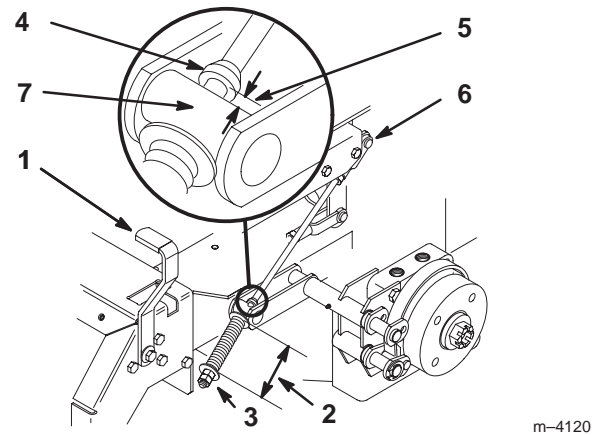

Figure 55
2. Measure the length of the spring. The measurement should be 2-3/4 in. (70 mm) between the washers (Fig. 55).
3. If an adjustment is necessary, loosen the jam nut below the spring and tighten the nut directly below the yoke (Fig. 55). Turn the nut until the correct measurement is obtained. Tighten the two nuts together and repeat on the opposite side of the unit.
6. Measure the distance between the trunnion roller and the collar on brake rod. The measurement should be 3/16-1/4 in. (5-7 mm) (Fig. 55).
7. If an adjustment is necessary, loosen the jam nut directly below the yoke. Turn the bottom adjusting nuts until the correct measurement is obtained (Fig. 55). Tighten the jam nut at the yoke.